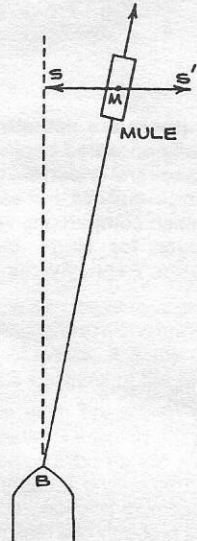

FIG. 7
To counteract that toppling force, the mule changes stride: it leans its right shoulder into the harness and begins to walk diagonally across the towpath (Figure 7) and not on a line parallel to the line of motion of the boat, as had been depicted before (Figure 4). By walking a slightly diagonal path, the mule is able to exert a pull directed along a line that is an extension of the line of the rope; by walking that path, and so directing his pull along the line of the rope, the mule is able to apply a component of force (MS') that equals and so cancels the force (MS) that tends to topple the mule. A mule walking a diagonal path may lean his right shoulder into the harness, but action of the boat rudder continuously pulls the mule back onto the centerline of the towpath during each stride the mule takes in the diagonal direction. That is, the mule's body leans slightly away from the canal while the mule's hooves tread steadily along the centerline of the towpath.
The effect of that counter-tension force is to cause the mule to push off from its left legs and so to lean the right shoulder into the harness, in that way to exert a force that is in line with (opposed to) the counter tension in the rope associated with the inertia of the boat and the displacement of water by the bow of the boat. The mule quickly aligns himself with that counter tension by "squaring his shoulders" to the line of the rope, a position maintained by turning his body slightly so that he heads in a diagonal direction on the towpath, as indicated in Figure 7, that diagonal heading forming the angle (A) with the line of motion of the boat and the centerline of the towpath.